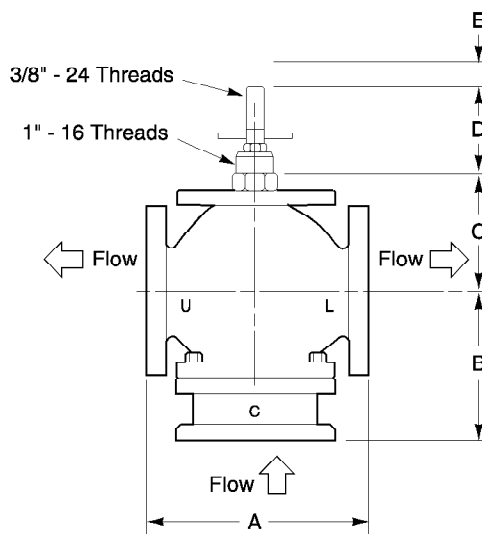

Figure-4 Typical of VB-9323-0-5-P Valve Bodies.
**Table-6 Dimensions for VB-9323 Series Valves (Figure-4).**